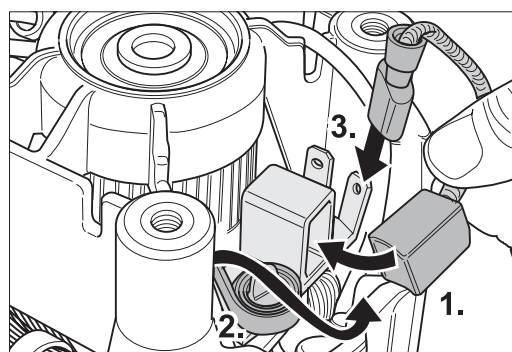

Fig. 43 Insert the new carbon brush, turn back the brass pressure clamp and attach the connector.
- 5 Insert the new carbon brush and turn back the brass pressure clamp (Fig. 43).
- 6 Fix the carbon brush connector on the contact provided. Install the carbon brush cable as for the other old carbon brush that is still installed, to avoid subsequent pinching of the cable (Fig. 43).